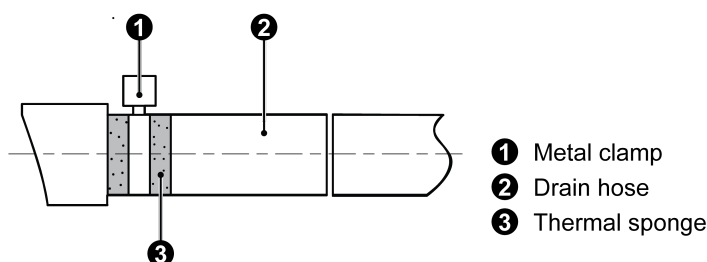

Fig.4.3.2
- (1) Insert the drain hose into the drain hole and tighten it with tapes, as shown in Fig.4.3.2. Model with water pump will be provided with drain hose, while other models please prepare the drain hose by yourself.
- (2) Tighten the pipe clamp, with the distance between screw nut and hose smaller than 4mm (3/16inch).